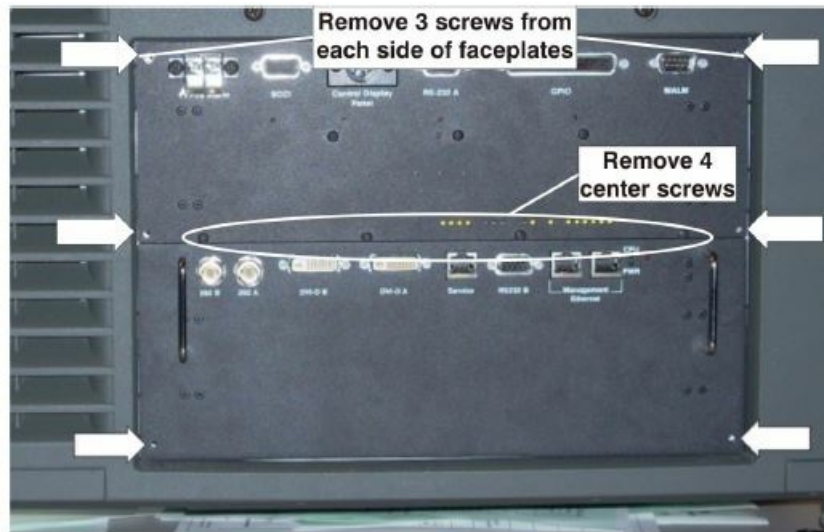

Figure 6
5. Remove three screws from each side of the two faceplates. (Figure 6) Do not remove the center screws just yet. This will allow you to pull the cardcage out a few centimeters. Only apply force to the top edges of the handles only.
7. Remove the four center screws securing both faceplates to the cardcage. (Figure 6)